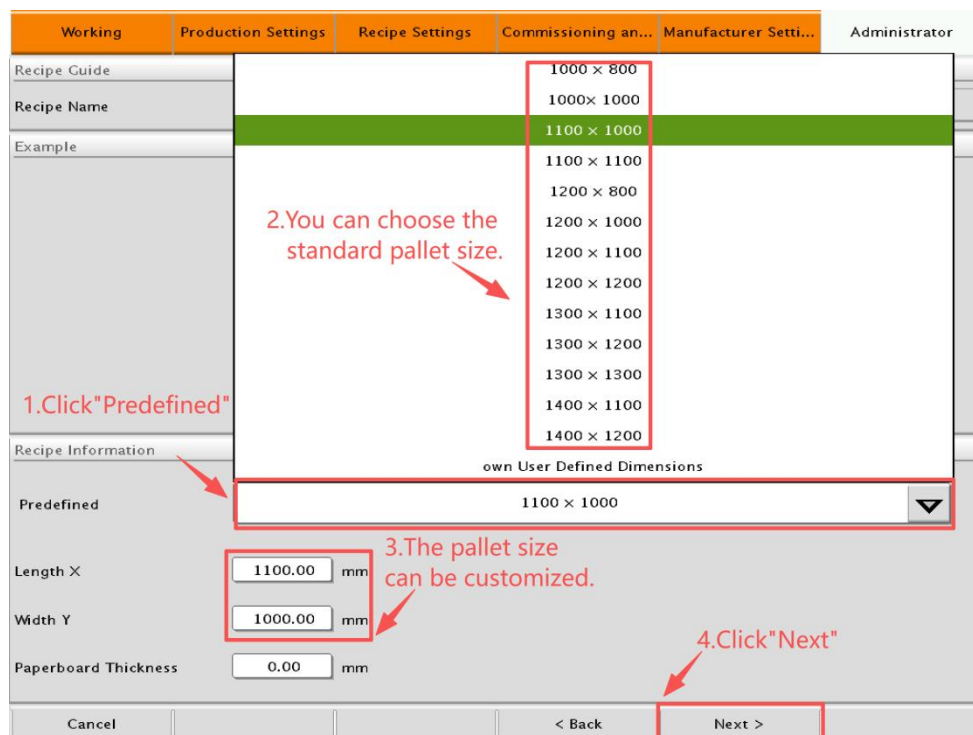

Figure 4-6
Click the “drop-down arrow” to select a standard pallet size or customize and manually input the pallet length (X) and width (Y) [Figure 4-6]. After entering the pallet size, click “Next”.